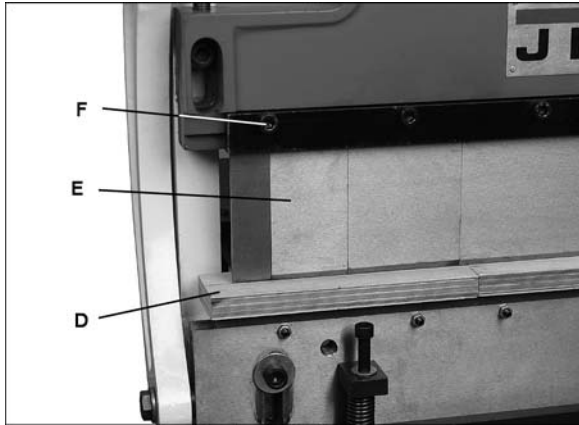

Figure 6
1. Place a strip of wood (D, Figure 6) on bottom die, the full length of die.
2. Close brake until the wood contacts upper dies (E).
3. Loosen screws (F) using 6mm hex key.